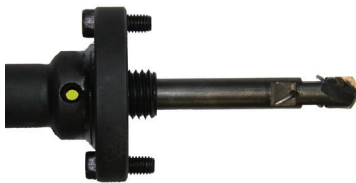

FIGURE 38
2.11.9) Confirm you have completely inserted the pilot drill and engaged the tapered flat. Look into the set screw hole for the marking on the pilot drill. Adjust the pilot drill until you can see the marking (see Figure 38).